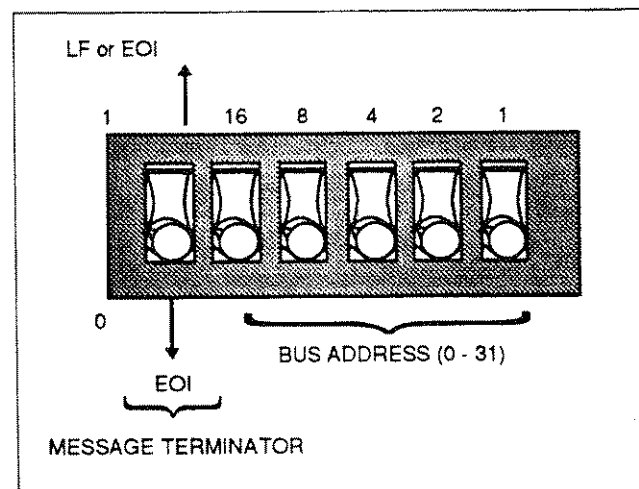

Figure 4-3. Rear-panel configuration switch.
The 370A has a configuration switch bank on the rear panel which is used to set the bus address and message terminator (see Figure 4-3).
- The address setting can be verified or changed by examining or setting the address switches located on the rear of the 370A (see Figure 4-3).
The terminator can be set with the terminator switch on the rear-panel configuration-switch bank (see Figure 4-3).